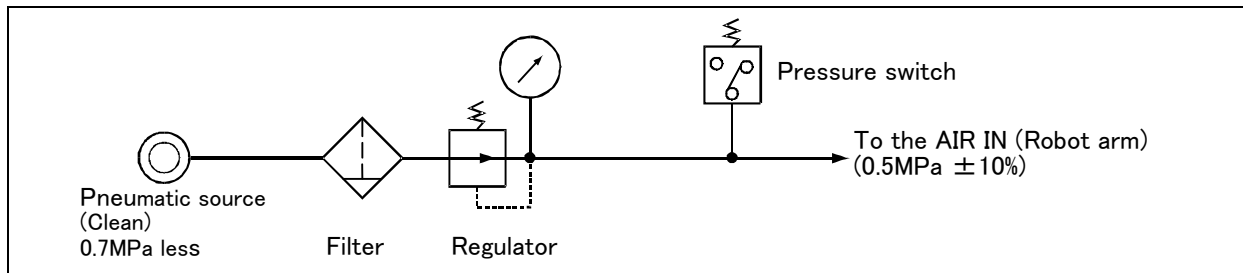

Fig.2-22 : Air supply circuit example for the hand
- (1) Place diodes parallel to the solenoid coil.
- (2) When the factory pneumatic pressure drops, as a result of the hand clamp strength weakening, there can be damage to the work. To prevent it, install a pressure switch to the source of the air as shown in Fig. 2-22 and use the circuit described so that the robot stops when pressure drops. Use a hand with a spring-pressure clamp, or a mechanical lock-type hand, that can be used in cases where the pressure switch becomes damaged.
- (3) The optional hand and solenoid valve are of an oilless type. If they are used, don't use any lubricator.
- (4) If the air supply temperature (primary piping) used for the tool etc. is lower than ambient air temperature, the dew condensation may occur on the coupling or the hose surface.